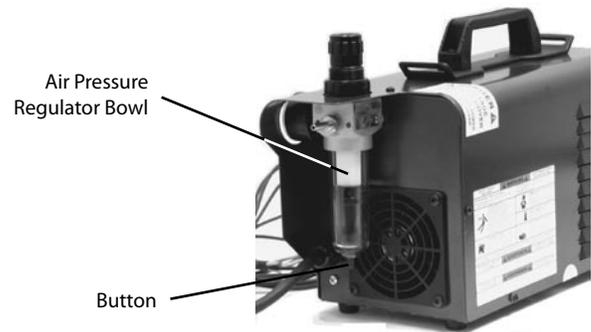

Figure 4-1 Draining Bowl
- H. Water or oil occasionally accumulates in the bowl of the air pressure regulator. To drain bowl, turn machine off with air supplied to the machine, then push upward on the button located on the bottom of the bowl. See Figure 4-1.